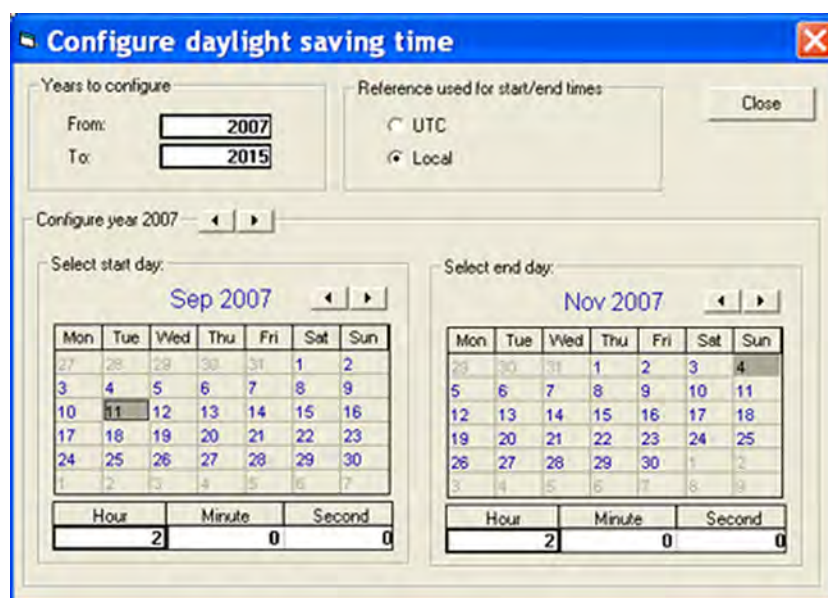

Figure 71 User Defined Daylight Saving
2. Click on the **DST** tab. The DST feature is available only for configurations made for MAWS version 6.02 or later. Select the **Automatic daylight saving time** option. Choose **User defined** as your DST zone from the drop-down menu and click **Configure** to open the configuration window (see Figure 71 on page 150).
- b. In the **References used to start/end times** window, shown in Figure 71 on page 150 above, you can choose **Local** or **UTC** as the reference used. **Local** means that daylight saving starting and ending times follow local time. **UTC** means that starting and ending times follow UTC time. For example, in USA, daylight saving times are implemented in local time, whereas in Europe, they are implemented in UTC time.